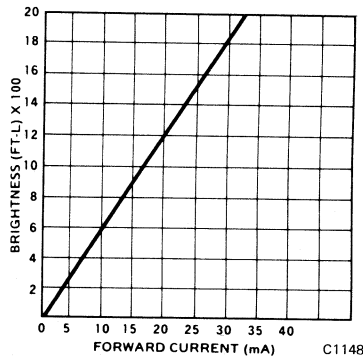
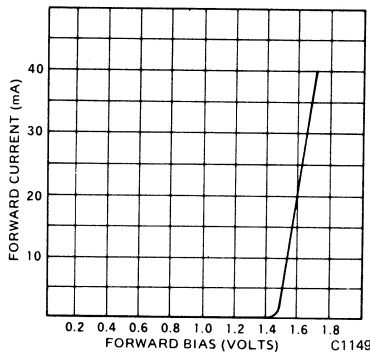

Figure 3a.
Figure 3b.
**Design Example #1:** Suppose that a Monsanto MV50 is to be used with Figure 2's circuit and a  $V_{CC}$  of +5 volts. Figure 3a shows the MV50's Brightness versus  $I_F$  curve, and Figure 3b shows  $I_F$  vs.  $V_F$ . (Note that Brightness varies directly with  $I_F$ ). Further suppose that a Brightness of 800 foot-Lamberts is decided upon. From Figure 3a we see that  $I_F$  must be set at 13 mA, from Figure 3b we see that  $V_F$  will be 1.5 volts when  $I_F$  is 13 mA. Substituting these values in Equation 2, we obtain